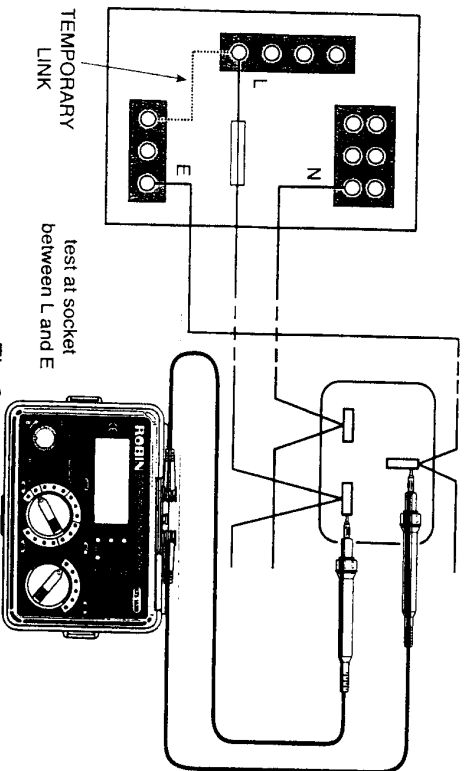

Fig 3
5. Connect the test leads to the circuit whose resistance is required (see Fig 3 for a typical connection arrangement). Having first made sure that the circuit is not live. Note that the live circuit warning lamp will illuminate if the circuit is live - but check first anyway!